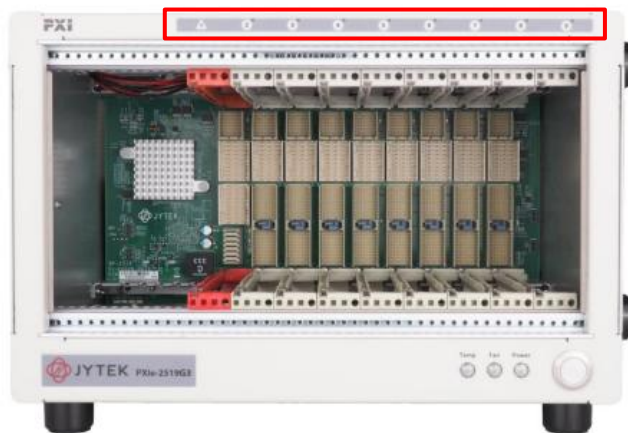

Figure 58 Slot number on PXIe Chassis
- Slot Number is the number marked on the top of the PXIe chassis. As shown in Figure 58. Here we set Slot 0 as the Master device, Slot 1 as the Slave device.